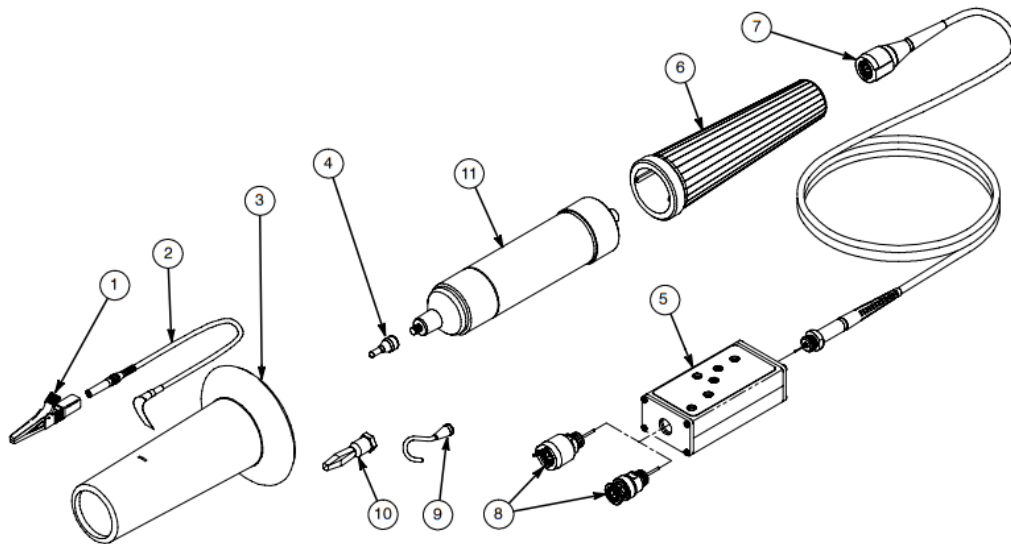

Figure 2- 5: P6015A Exploded View
3. Replace the top half of the compensation box. Note that the edges are asymmetrical (as shown previously in Figure 2–1) and that the top will seat securely only when it is correctly oriented. This ensures that the adjustment holes are properly aligned with the circuit board.